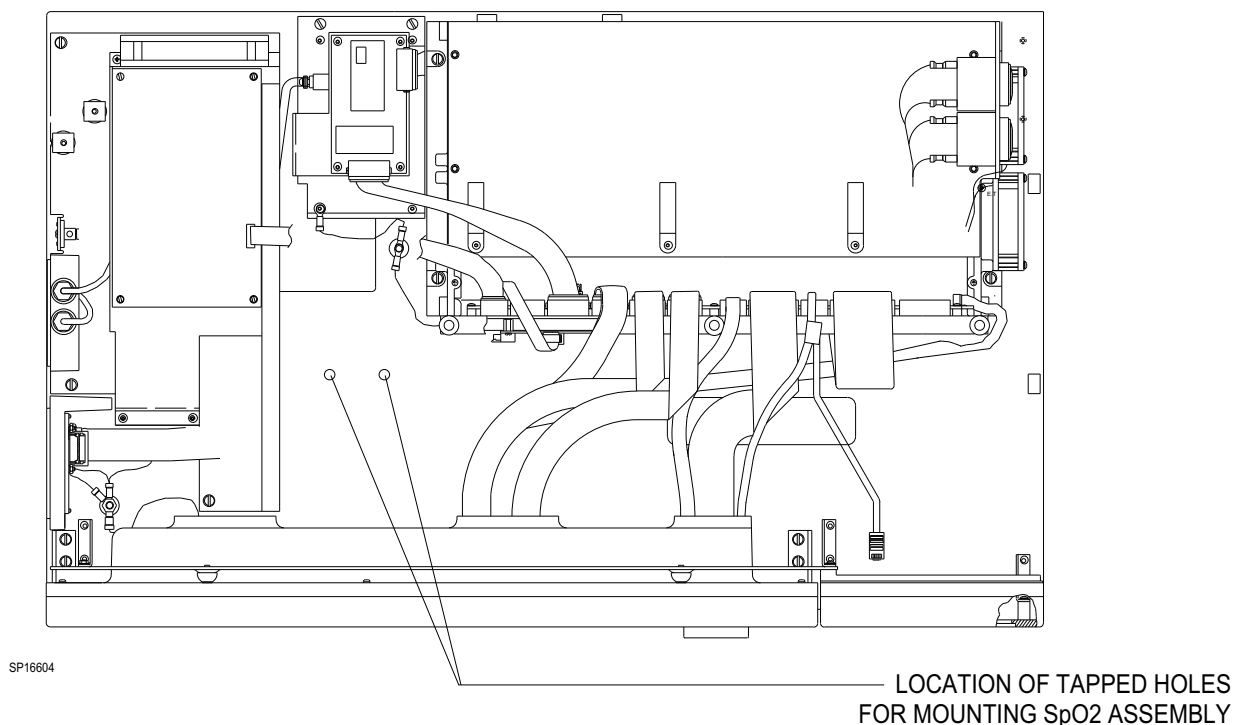

Figure 4: MONITOR BOX TOP VIEW, LATER MODELS
13. Examine the monitor box base plate. Later model Narkomed 4s have two tapped holes in the base plate as shown in Figure 4. If the machine has these holes, proceed to Step 17.